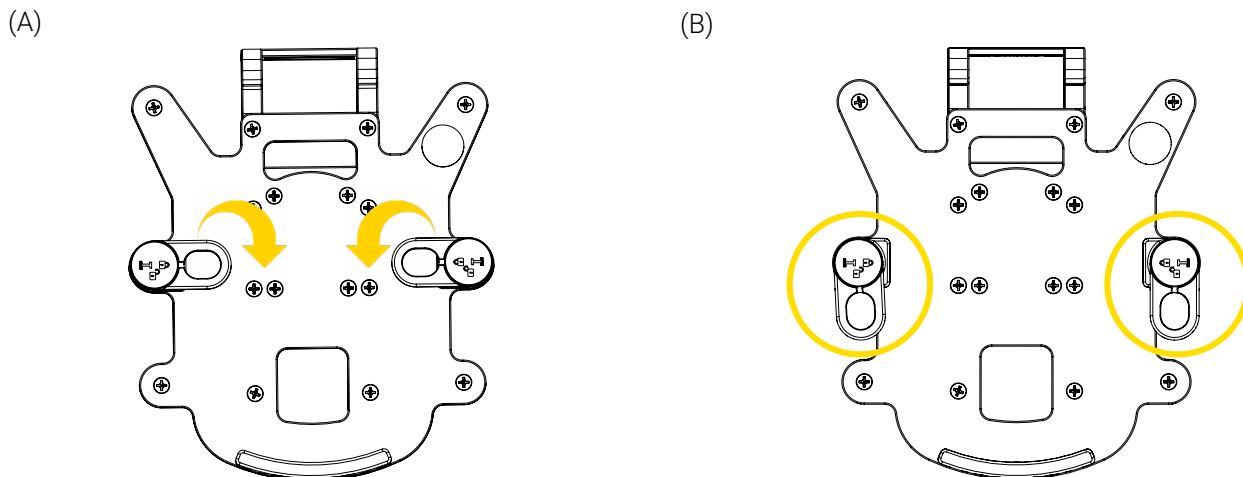

Figure 8: Unlock the support bracket with a bottom micro disc (top view)
1. If the two (2) rotary locks located at the sides of the support bracket are in the locked position  (Figure 8 A), turn the left rotary lock clockwise and the right rotary lock counterclockwise a quarter of a turn to the unlocked position  (Figure 8 B).